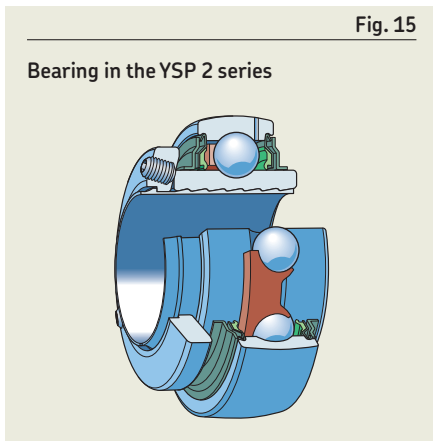

Fig. 15
- have an inner ring symmetrically extended on both sides (fig. 15, bearing series YSP 2)